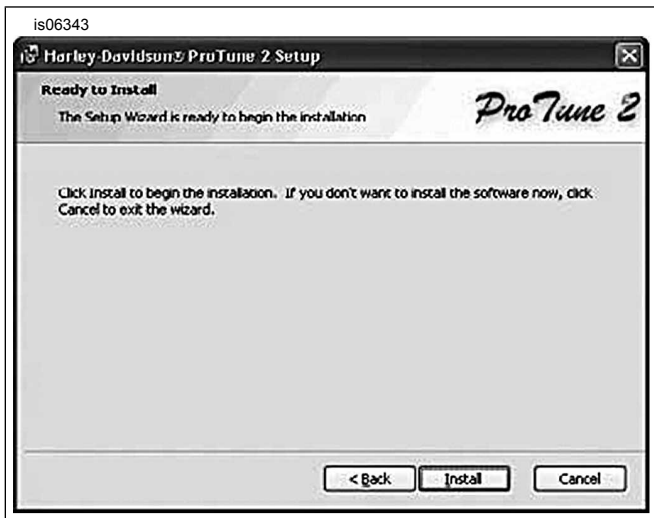

Figure 3. Ready to Install
- See Figure 3. If you are installing ProTune II on a PC that does not already have a copy of it installed or are updating an older version of ProTune II, click **Install**.